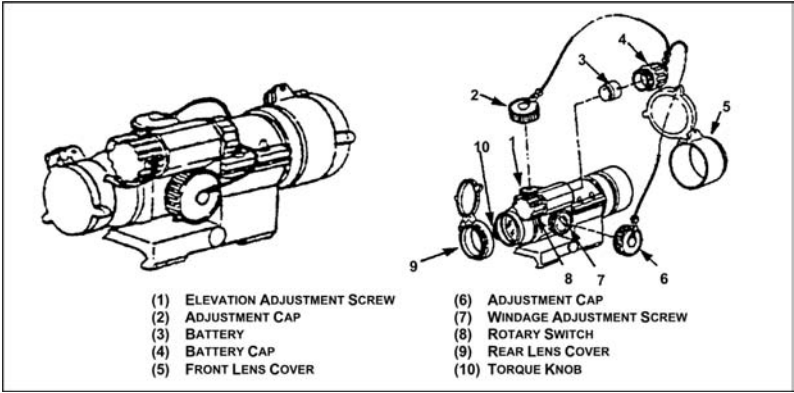

Figure 071-705-0003-1. M68, close combat optic
- a. Open the front and rear lens covers (figure 071-705-0003-1).
d. If adjustment is required, remove adjustment screw caps from adjustment screws by turning them counterclockwise (Figure 071-705-0003-1).